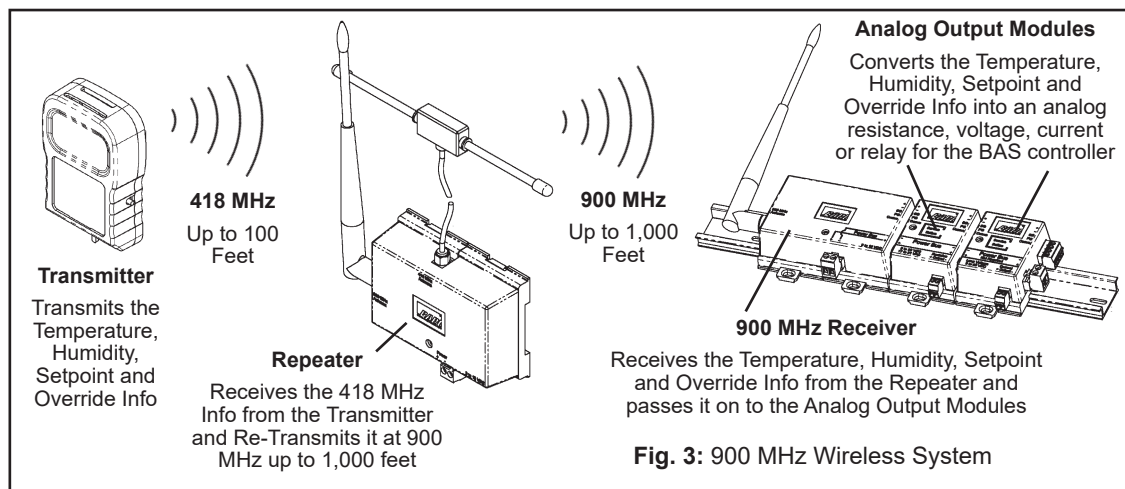
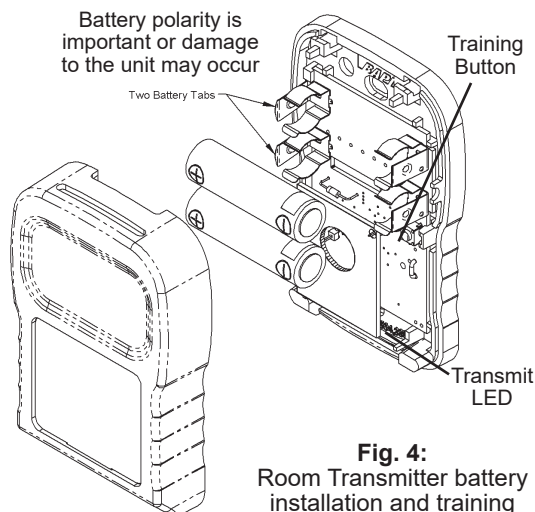
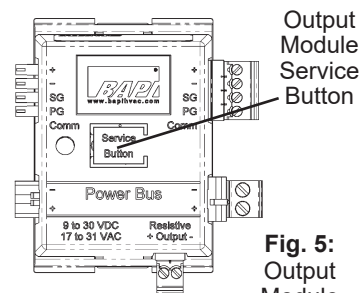

Fig. 3: 900 MHz Wireless System
Fig. 4:
Fig. 5:
3. Remove the cover of the room transmitter and remove the battery tabs or install the batteries, observing polarity as shown in Fig 3. Or open the cover of the BAPI-Box on non-room transmitters and remove the battery tabs or install the batteries as shown in Fig 4. The "transmit LED" will flash about once every 20 seconds, indicating a transmission. (The flash is very quick.)
4. Press and hold down the "Service Button" on the top of the output module (Fig 5) that you wish to train. Then, press and release the "training button" (see Fig 3 & Fig 4) on the transmitter. When the output module receives the "training transmission" from the transmitter, the output module's red LED will light steady. Release the "Service Button" on the output module and the red LED will go out. The transmitter and output module are now trained to each other. During normal operation, the output module's LED will flash about once every 20 seconds indicating data reception from the transmitter trained to it.
5. Install provided batteries or pull battery tabs and follow polarity as shown in figure 3 or damage may occur. The unit will work on just one battery however the battery life will be cut in half.